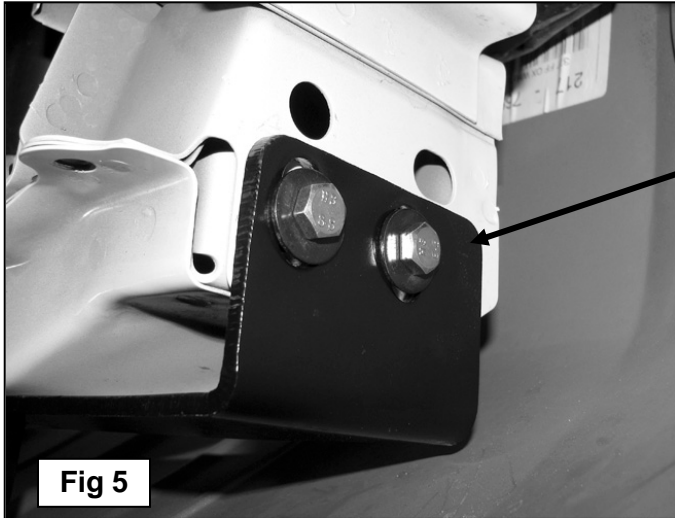
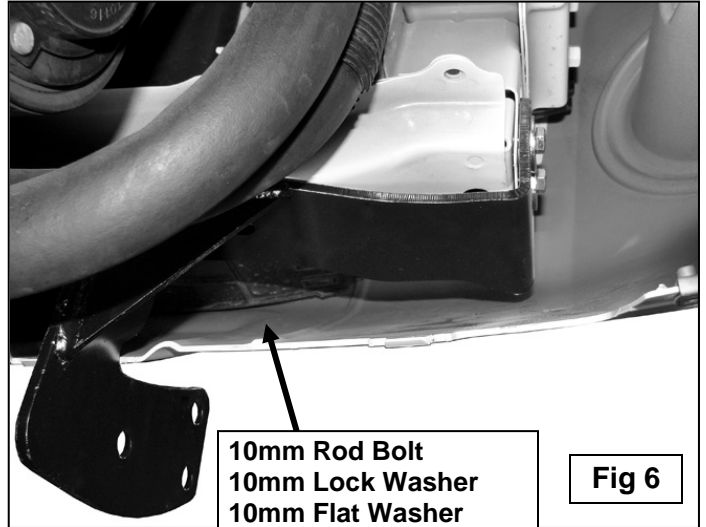

Fig 5
Fig 6
5. Position the passenger side Mounting Bracket up to the cross member and over the previously installed Rod Bolt. Secure Mounting Bracket to Rod Bolt with (1) 10mm Flat Washer and (1) 10mm Nylon Lock Nut, **(Figure 6)**. Do not tighten hardware at this time.
6. Attach the Mounting Bracket to the (2) threaded holes in the end of the cross member.
**2008 Models:** Use (2) 10mm x 30mm Hex Bolts, (2) 10mm Lock Washers and (2) 10mm Flat Washers, **(Figure 5 & 6)**. Do not tighten hardware at this time.
**2009-2012 Models:** Insert (2) 8mm x 30mm Hex Bolts, (2) 8mm Lock Washers and (2) 8mm Flat Washers into the threaded inserts installed in Step 4, **(Figure 5 & 6)**. Do not tighten hardware at this time.